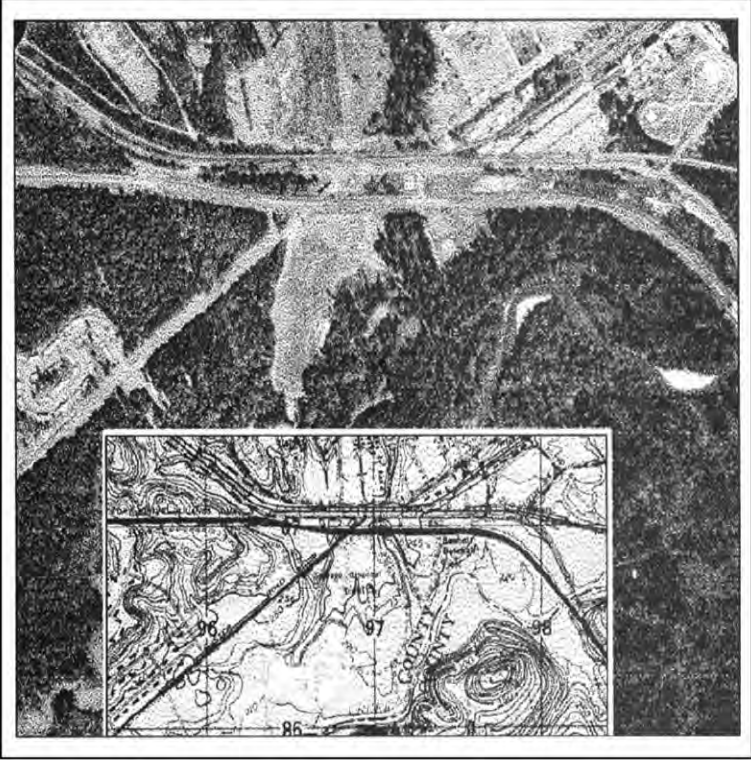

Figure 071-COM-1002-1. Terrain Association.
2. Match terrain features appearing on your map with terrain features physically observable on the ground (Figure 071-COM-1012-1).